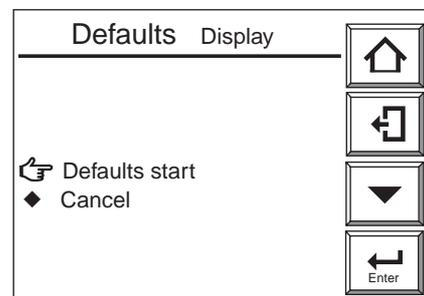

Figure 10.12 Initialization Start Display
- (4) Select your desired item to initialize in order to display the “Defaults” Display shown in Figure 10.12.
- (5) Choose Defaults start. Initialization then starts.